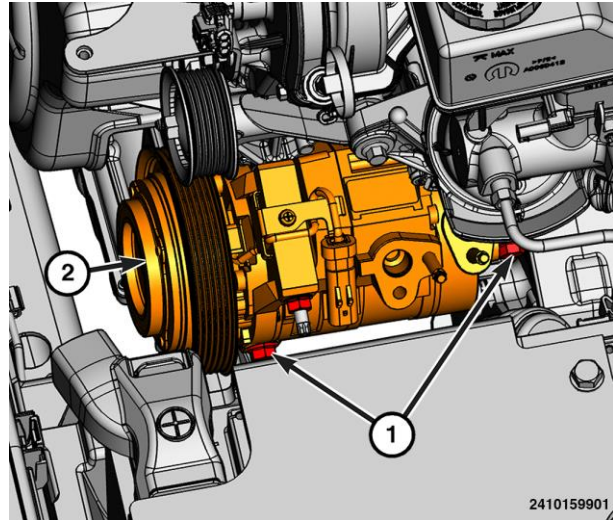

Figure 14 – A/C Compressor Fasteners
20. Remove the fasteners (1) securing the A/C compressor (2) to the engine (Figure 14).
39. Install and hand tighten the fasteners (1) securing the A/C compressor (2) (Figure 14). In this order, tighten the nut to 28 N·m (21 ft. lbs.), the rear bolt to 28 N·m (21 ft. lbs.) and the lower bolt to 28 N·m (21 ft. lbs.).